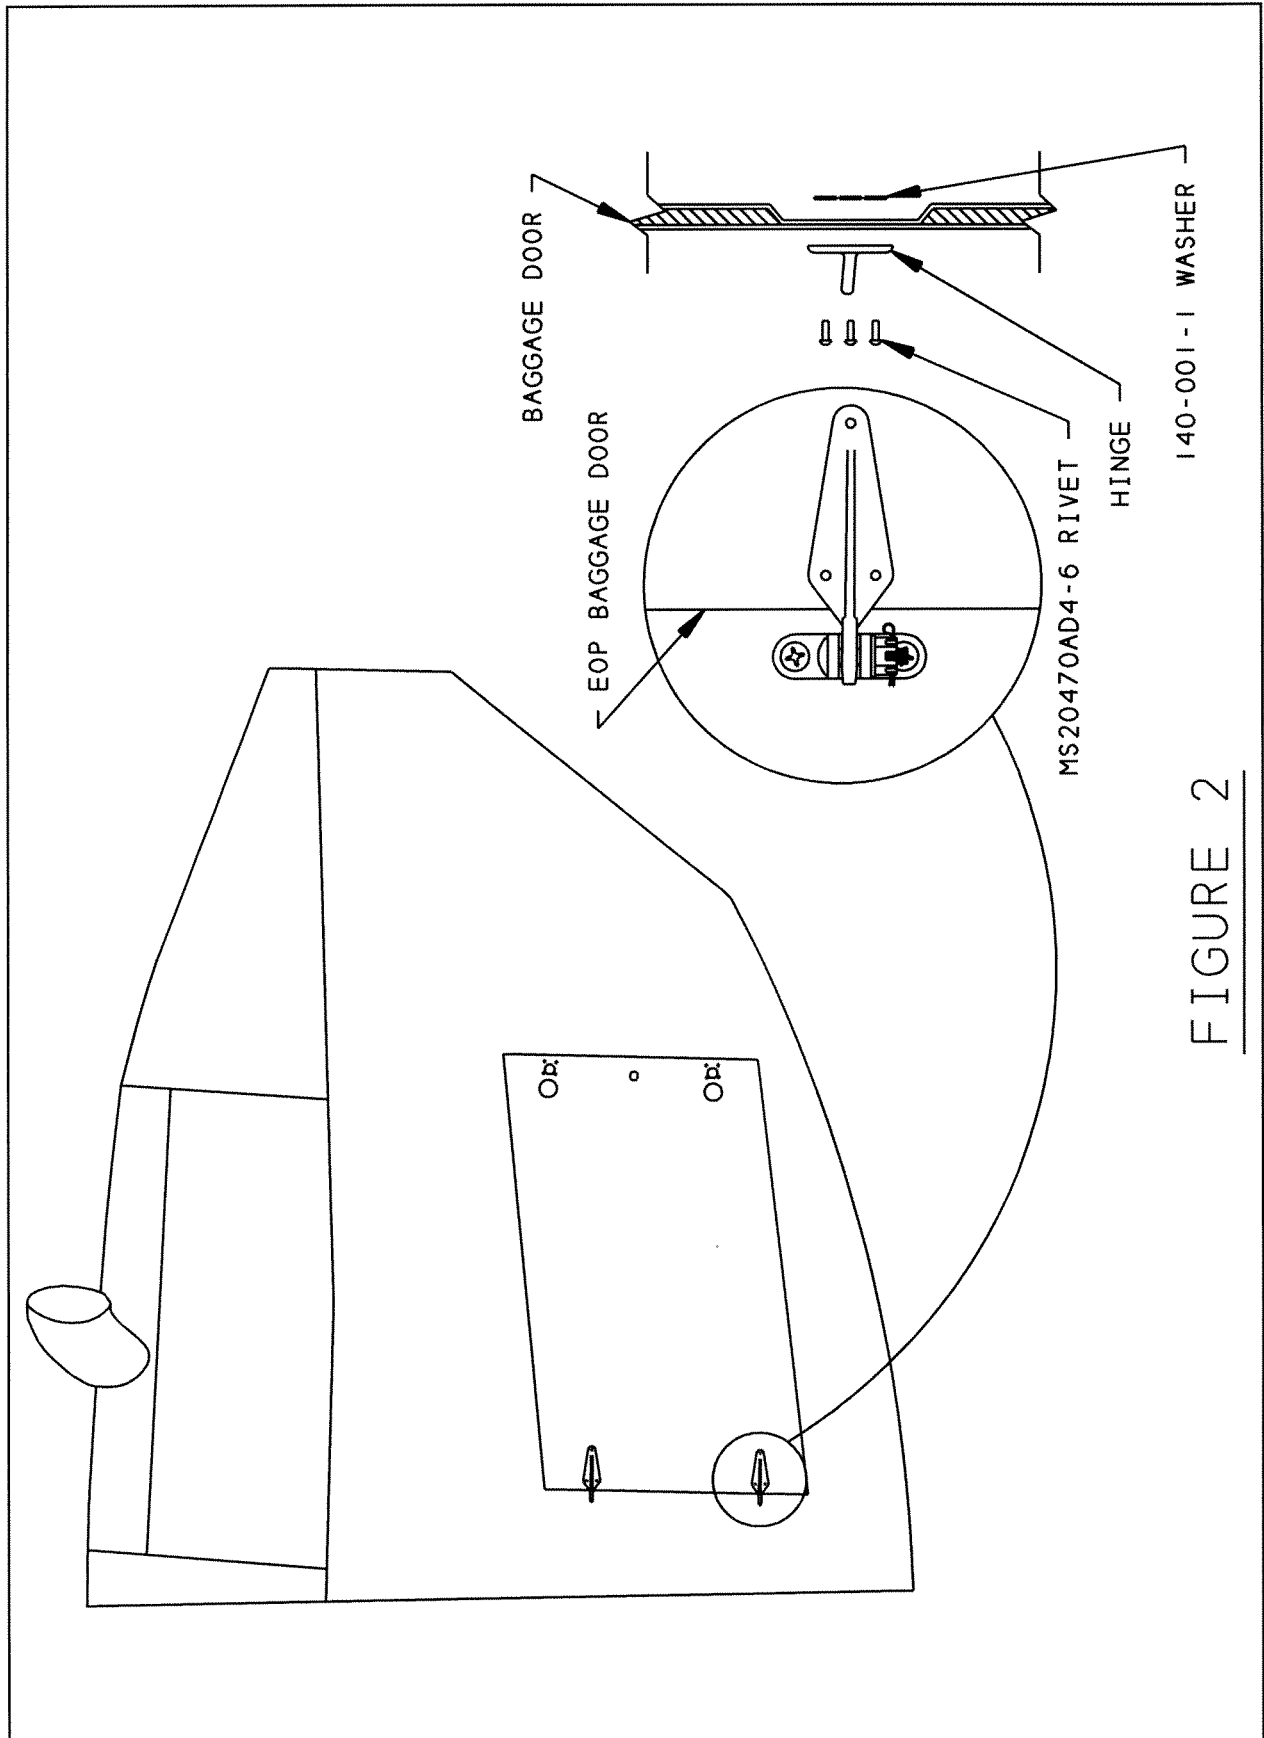

FIGURE 2
9. One by one, pull clecos and fasten the hinges to the Baggage Door as depicted in Figure 2.